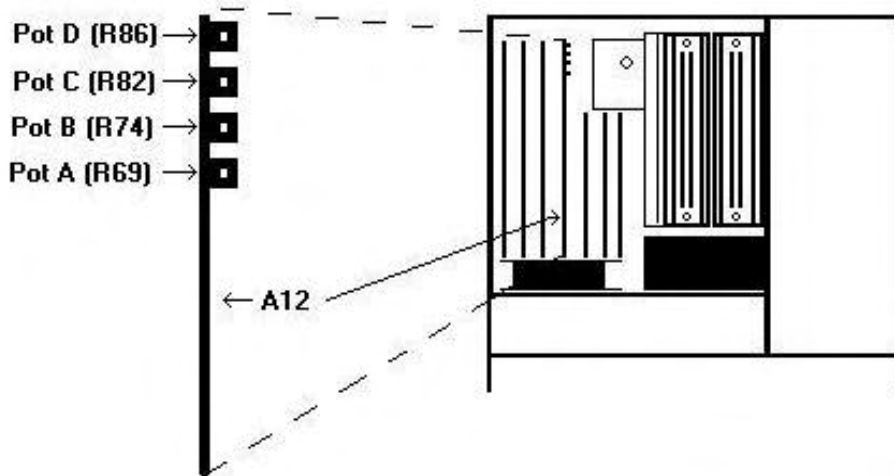

Figure 3. I/O adjustment location.
- (1) Adjust A12 pot A (R69) (fig. 3) for a  $-2.0000 \pm 0.0005$  V dc multimeter indication (R).
- (2) Adjust A12 pot B (R74) (fig. 3) for a  $2.0000 \pm 0.0005$  V dc multimeter indication (R).
- (3) Adjust A12 pot D (R86) (fig. 3) for a  $-2.0000 \pm 0.0005$  V dc multimeter indication (R).
- (4) Adjust A12 pot C (R82) (fig. 3) for a  $-2.0000 \pm 0.0005$  V dc multimeter indication (R).